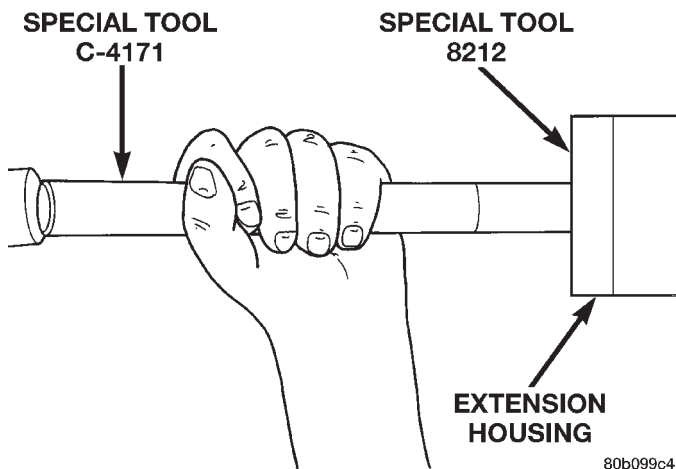

Fig. 14 Install Extension Housing Seal
- (1) Clean seal bore of extension housing of any residual sealer material from original seal.
- (2) Using Tool Handle C-4171 and Seal Installer 8212, install new extension housing seal so that the seal is located 0 ± 0.5 mm (0 ± 0.02 in.) to the face of the extension housing (Fig. 14).